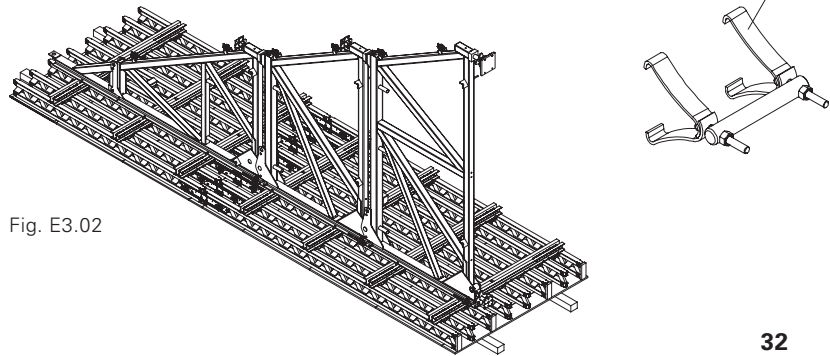

Fig. E3.02
6. Remove connections (30, 31, 32 and 33) to the formwork unit and Brace Frame. (Fig. E3.02 + E3.03)